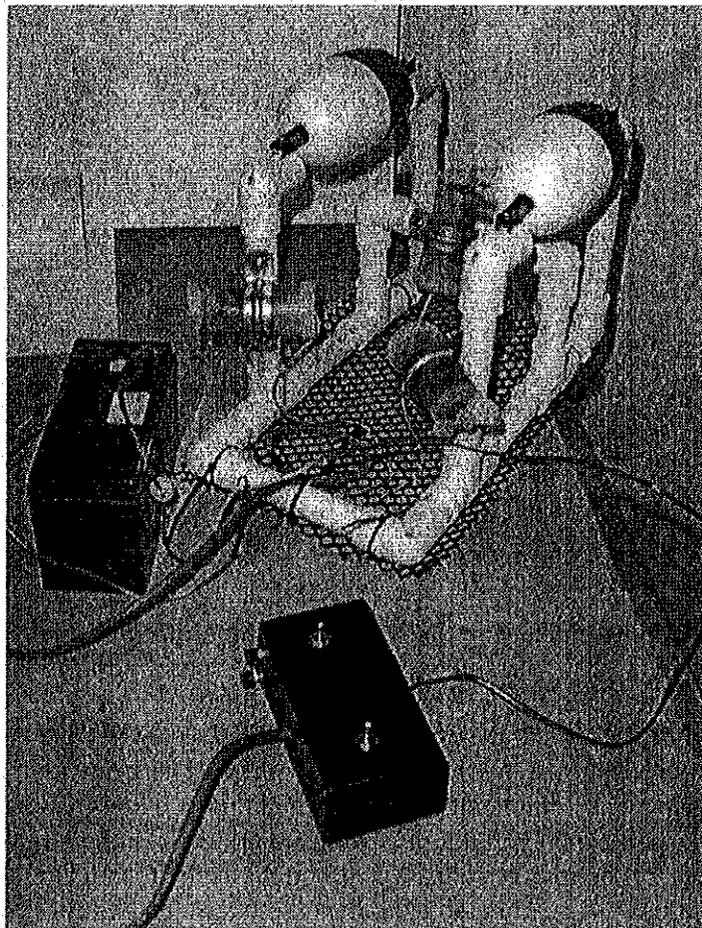

Figure 49: Finished Sea Perch ROV
6. Congratulations, you have completed your Sea Perch ROV! (Figure 49).